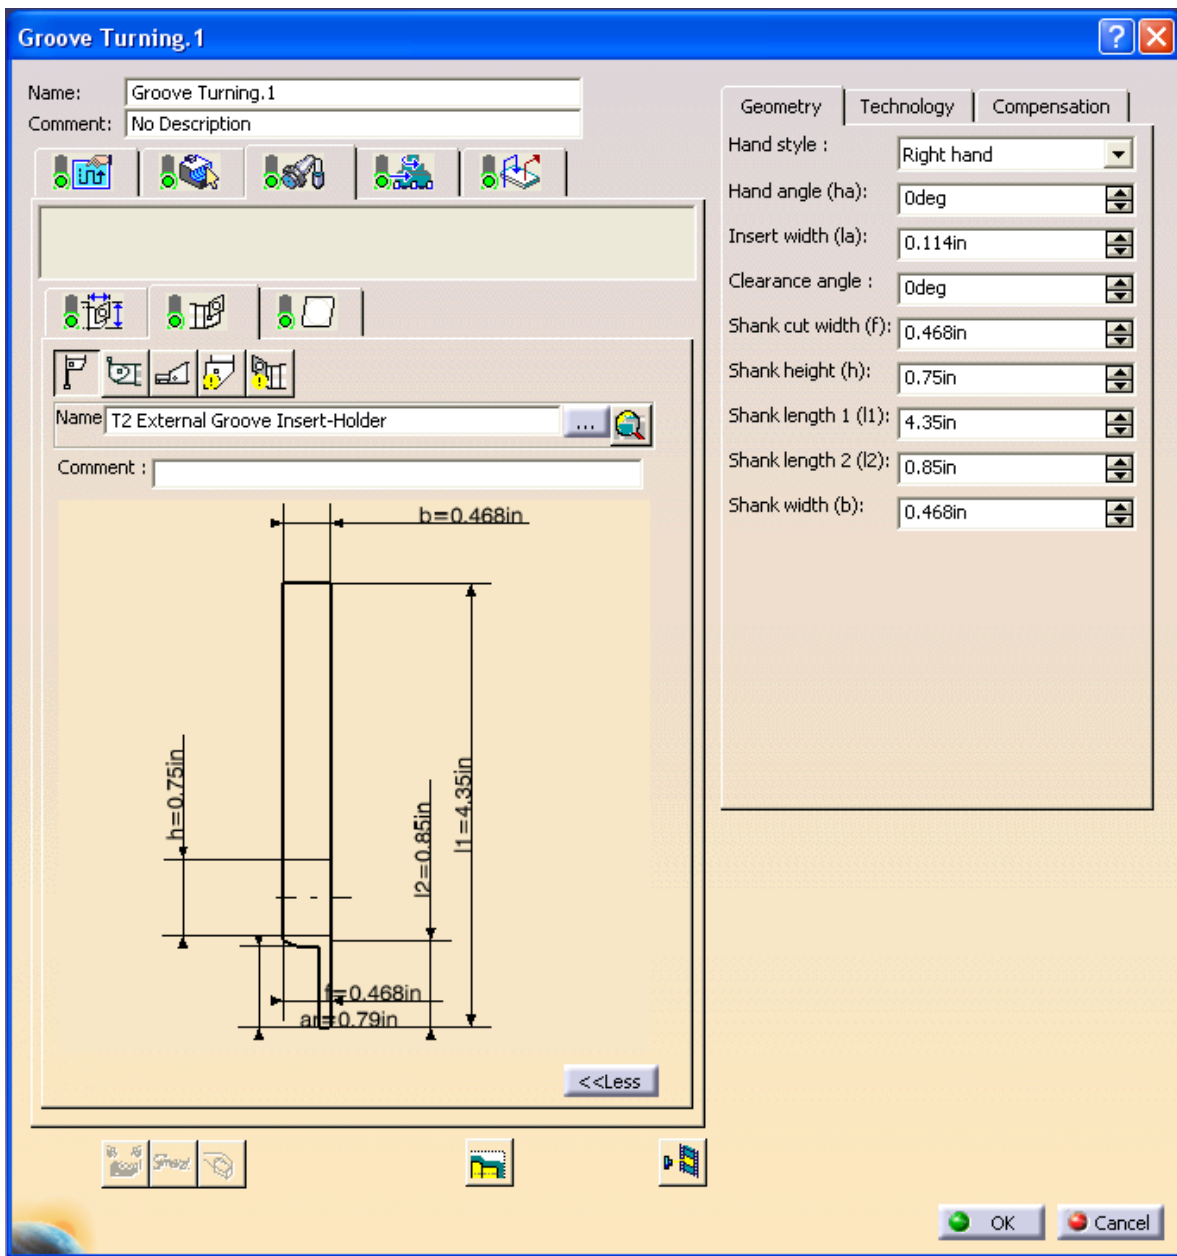

Figure 9. Grooving tool holder set-up
- ii. See figure 9 and add these values to the tool